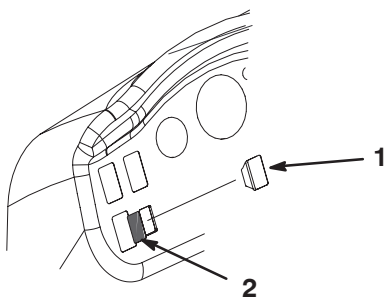

Figure 21
66. Insert the switch into the dash panel hole (Fig. 21).
67. Affix the decal to the dash panel, next to the switch (Fig. 21).